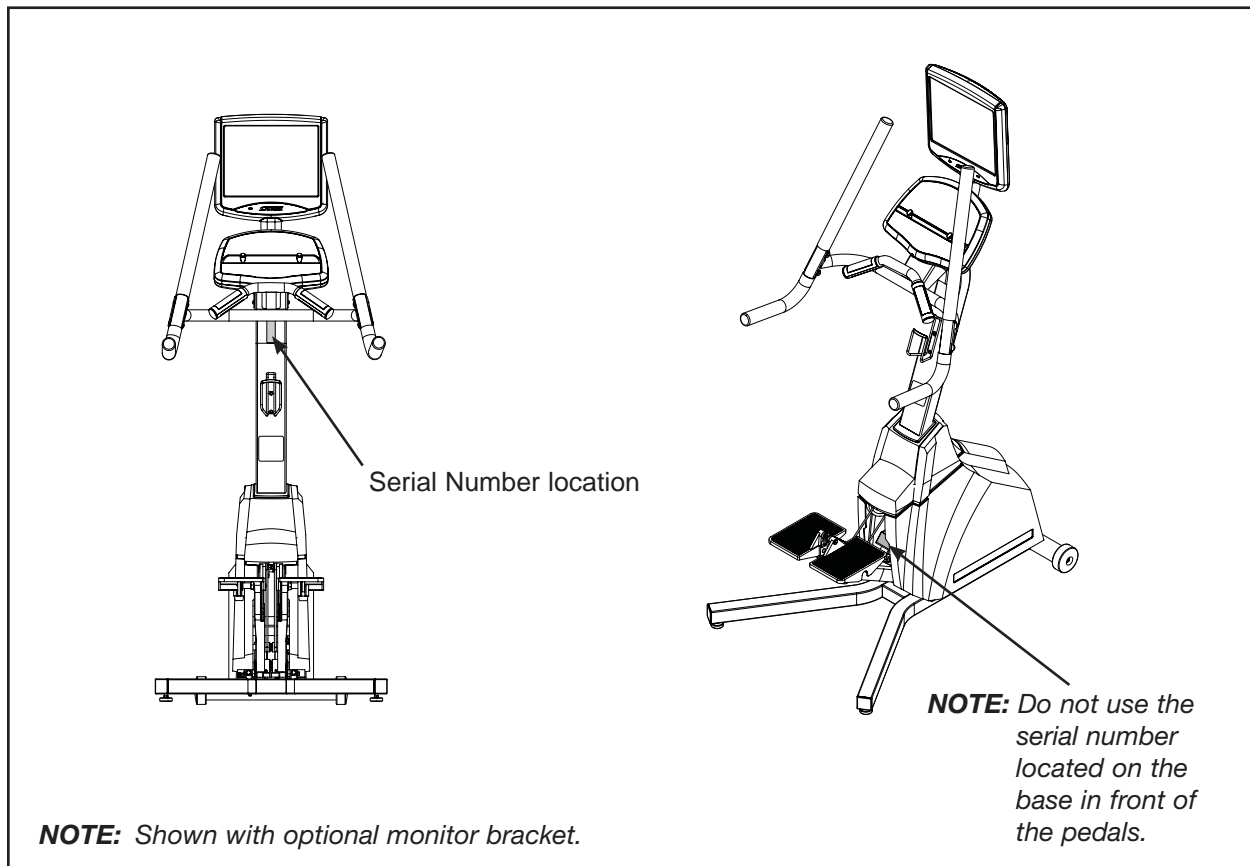

Figure 1
Your serial number can be found on the back of the console upright, See Figure 1.
3. Provide the model and serial number. *The serial number is located on the front of the unit as shown in Figure 1.* The serial number begins with a letter, for example: R09-101331100.